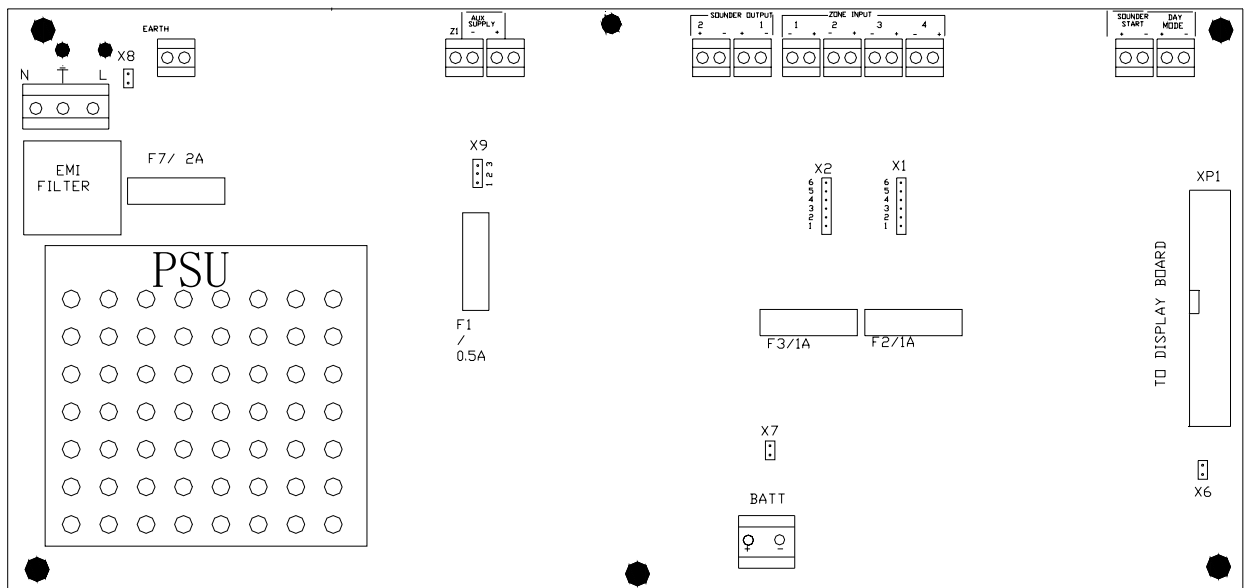

Fig. 3.6.2
Fig.3.6.2 for the component position.
3.6.2.1.2. Case 2: Configure sounder 1 as a normally open contact, remove the fuse F2, link the first and second, the fourth and fifth pins of jumper X1 with a short circuit link respectively. Refer to Fig.3.6.2 for the component position.
3.6.2.1.3. Case 3: Configure sounder 1 as a normally closed contact, remove the fuse F2, link the first and second, the third and fourth pins of jumper X1 with a short circuit link respectively. Refer to Fig.3.6.2 for the component position.
4.5.1. Link jumper X8 (see Fig.3.6.2 for the component position)—Earth fault monitoring is enabled with link in place and disabled with the link removed.
4.5.2. Link X9 (see Fig.3.6.2 for the component position)—If link the first and second pins, the output is permanent. While link the second and third pins, the output is interrupted for 3 seconds when the fire alarm is being cleared.